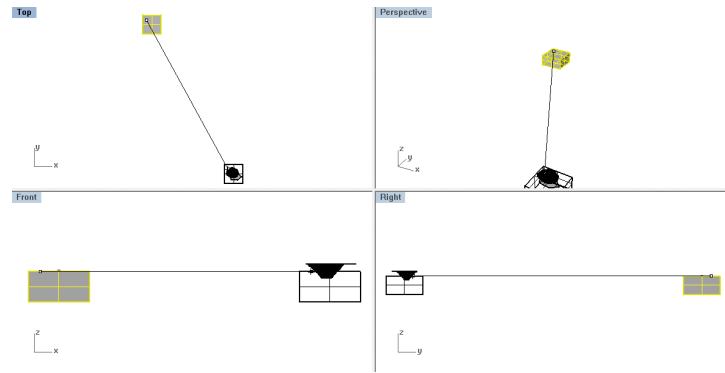

Figure 130: Dragging the box on top of the pit.
31. Type **_Box** and select the **Diagonal** option. Enter **-1500,-1500,-1500**, press **<ENTER>** and enter **1500,1500,0** followed by **<ENTER>** to create a box of width 3000, length 3000 and height 1500 centered around the x, y origin. In the **Top** view, select the box, **left-click** on it and drag it on top of the pit (Figure 130).